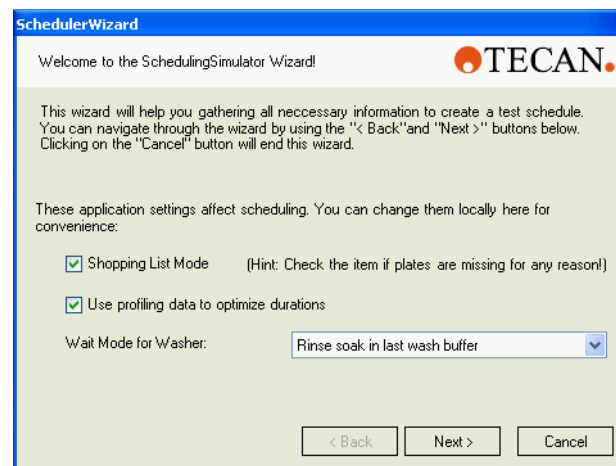

Fig. 15-4 Welcome screen
- ♦ If you have enabled automatic durations (see **Use profiling data for optimizing durations**, Fig. 15-4, ¶ 15-6), the job durations in the Scheduling Simulator will be computed based on the profiling data obtained earlier within the run control.